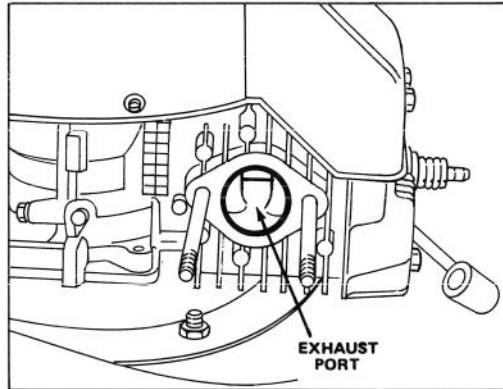

Figure 6
3. Pull wire off spark plug. Slowly pull recoil starter until piston covers exhaust port (Fig. 6).
4. Clean carbon from exhaust port (Fig. 6) with flat, hard wood scraper.